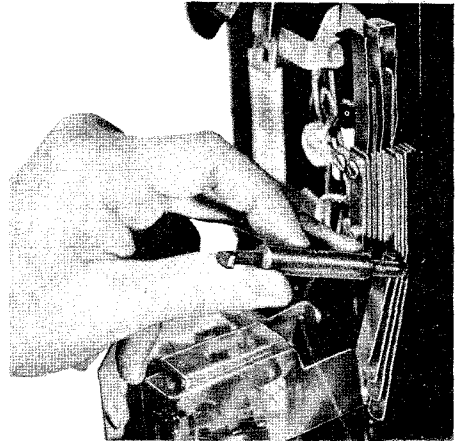

Fig. 50—Adjustment of Housing Contact Springs
- Use a 466A tool to adjust housing contact and equalizing springs to have approximately 1/4-inch follow (Fig. 50).